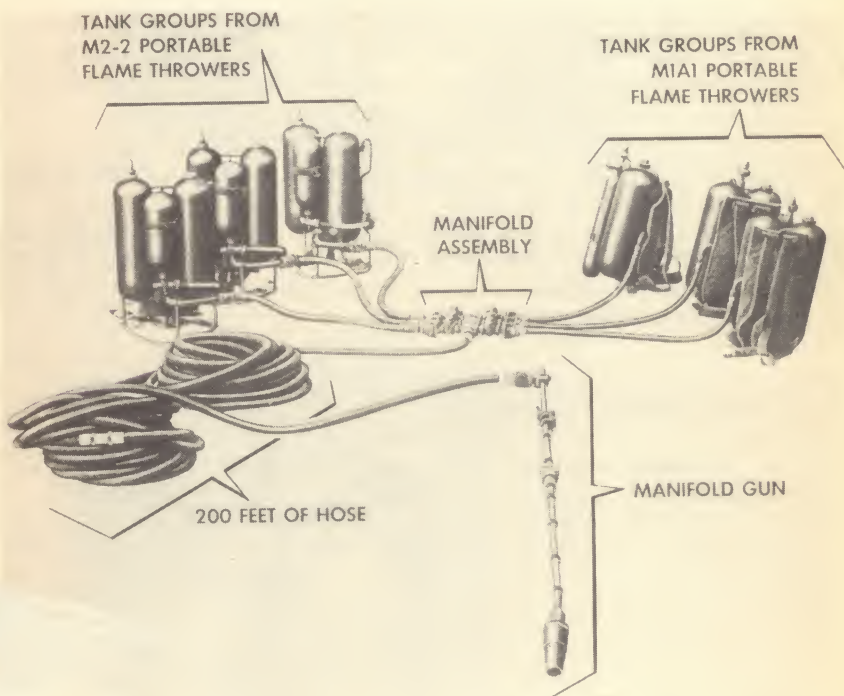

Fig. 20. Equipment assembled for operation. Any combination of as many as six M2-2 or M1A1 portable flame thrower tank groups may be used.
(1) If M2-2 portable flame thrower fuel tanks have been pressured by opening of pressure tank valves, release this pressure before removing guns. To do so, close pressure tank valves. Then very slightly loosen plugs on top of fuel tanks by turning plugs with wrench, allowing the pressure to bleed from tanks. Do not completely unscrew the plugs. After pressure is bled, tighten plugs with wrench.
(2) If any M1A1 portable flame thrower fuel tanks have been pressured by opening of pressure cylinder valves, close fuel valves on tank groups (fuel units) before removing guns. When removing guns, open fuel discharge valve, allowing pressure to bleed from hose and hose connector before disconnecting.
h. Holding manifold assembly and ends of hose (from flame throwers) above the top of fuel tanks, connect hose to manifold assembly (fig. 20). By holding them in air, escape of fuel is prevented. Place manifold assembly and hose on ground in previous positions.
j. Couple forward end of manifold fuel hose assembly to the gun (fig. 20).
l. Holding manifold assembly above the top of fuel tanks, remove coupling plug from front (outlet) coupling of manifold assembly. Connect rear end of manifold fuel hose assembly to this coupling. Place manifold assembly on ground (fig. 20).